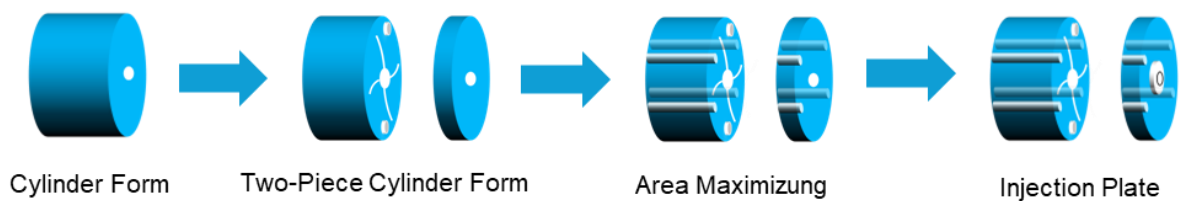

Figure 1: Illustration of the construction process when using water-breakable mold material.
3D printing of a photopolymer mold vs shaping from a piece of metal brings several changes in the design and construction. Attention needs to be paid not only to the different thermomechanical properties between a polymer and a metal, but also to the fact that the mold is properly printed, washed, post-cured, and later on, removed by water. Therefore, we recommend the following properties for designing a 3D-printed mold (Table 1 and Figure 1).
- For the shown cylinder (e.g. Figure 1 and 2, $\varnothing = 80$ mm, $h = 30$ mm), we recommend 2 x 30 min.